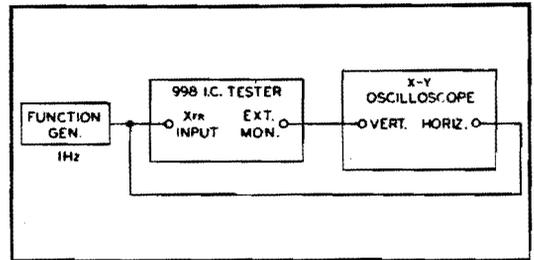

FIG. 2-9. Test Setup for Transfer Function.
- 2) Test circuit is shown in Figure 2-9.